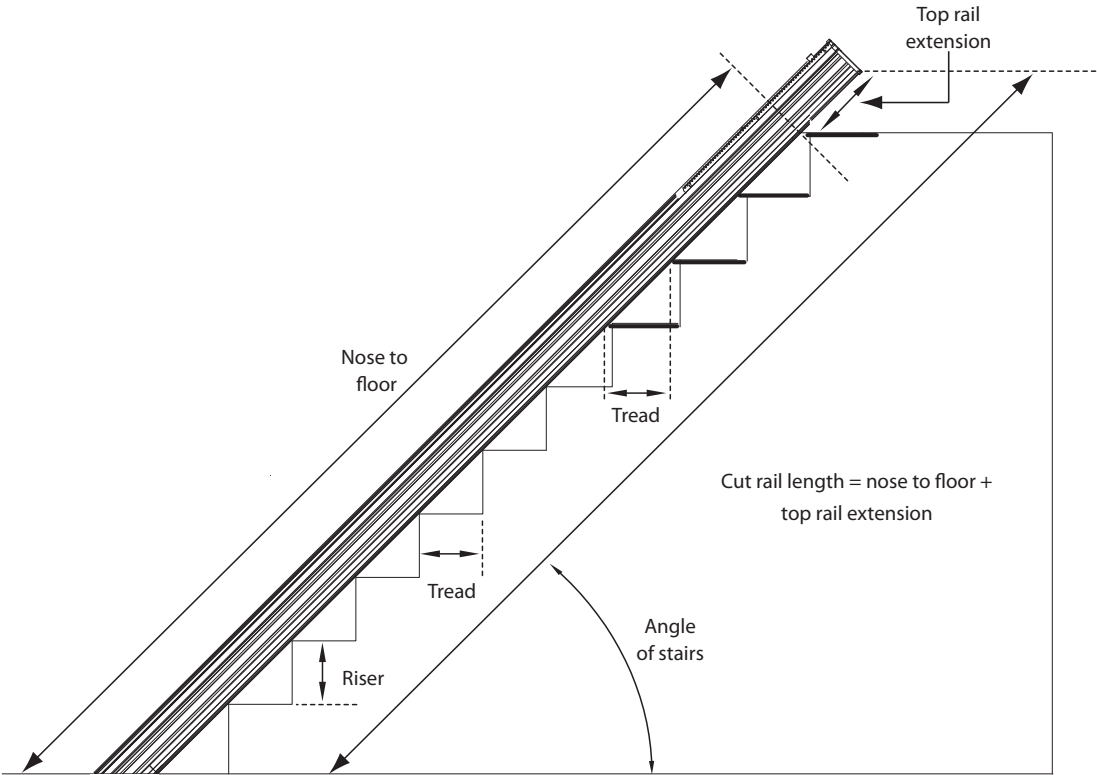

Figure 3: Rail Length Measurements
- 3 Use the table shown below Figure 3 to find the **top rail extension length (E)** based on the rail angle (A) and the seat height (H). For example, with a rail angle of 30° and a seat height of 18", the rail extension length required is 8". Note that these are recommended values subject to end user and prevailing site conditions.
- The seat height (H) is determined by positioning the end-user in their normal sitting position and measuring from ground to knee height.
- 4 Add the nose to floor measurement (see Figure 2) to the top rail extension length (from Figure 3 above) to get the **total cut rail length**.